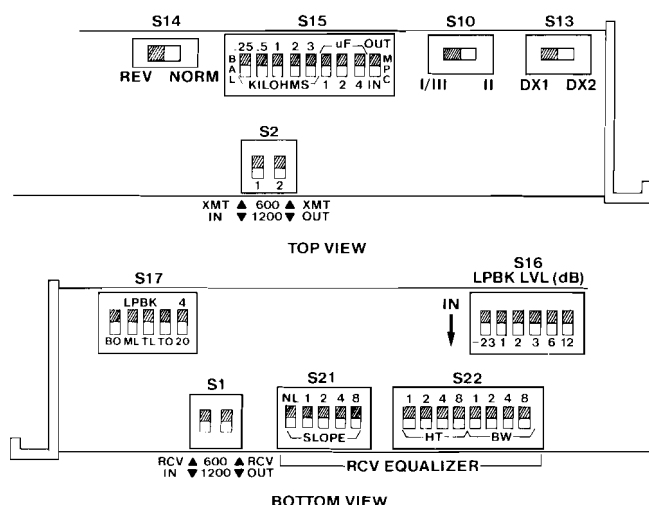

figure 8. 6166X option switch locations
3.06 All option switches must be set before the 6166X can be placed into service. The switches and their functions are described in paragraphs 3.06 through 3.13. The locations of the switches on the module's printed circuit board are shown in figure 8. Table 4 provides a convenient checklist for optioning the module.